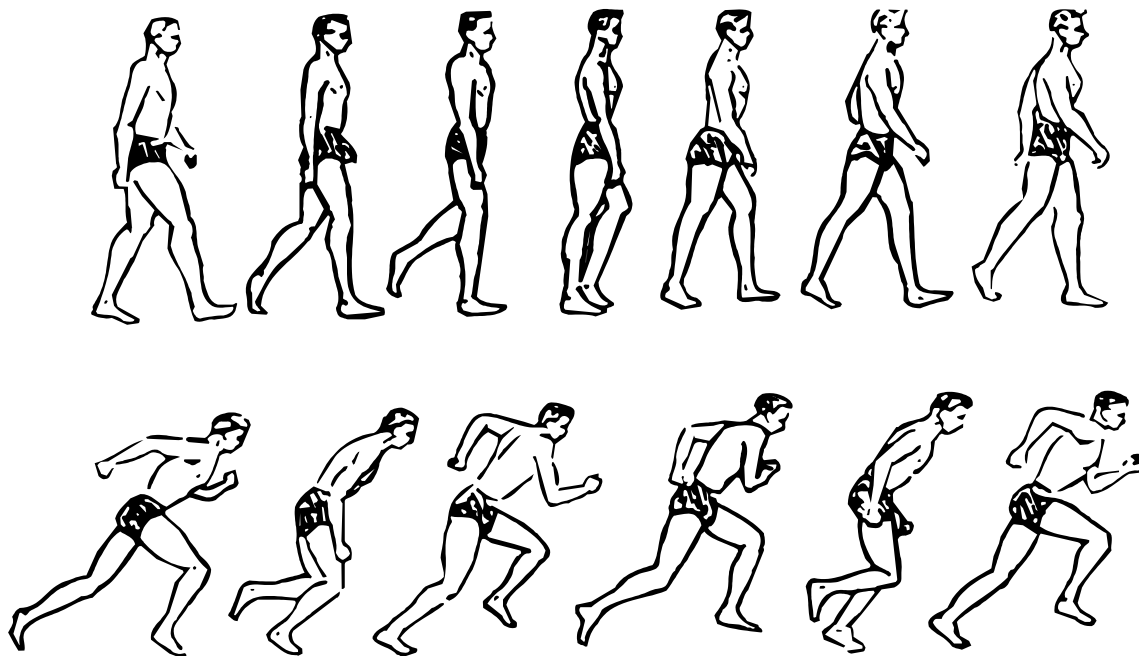
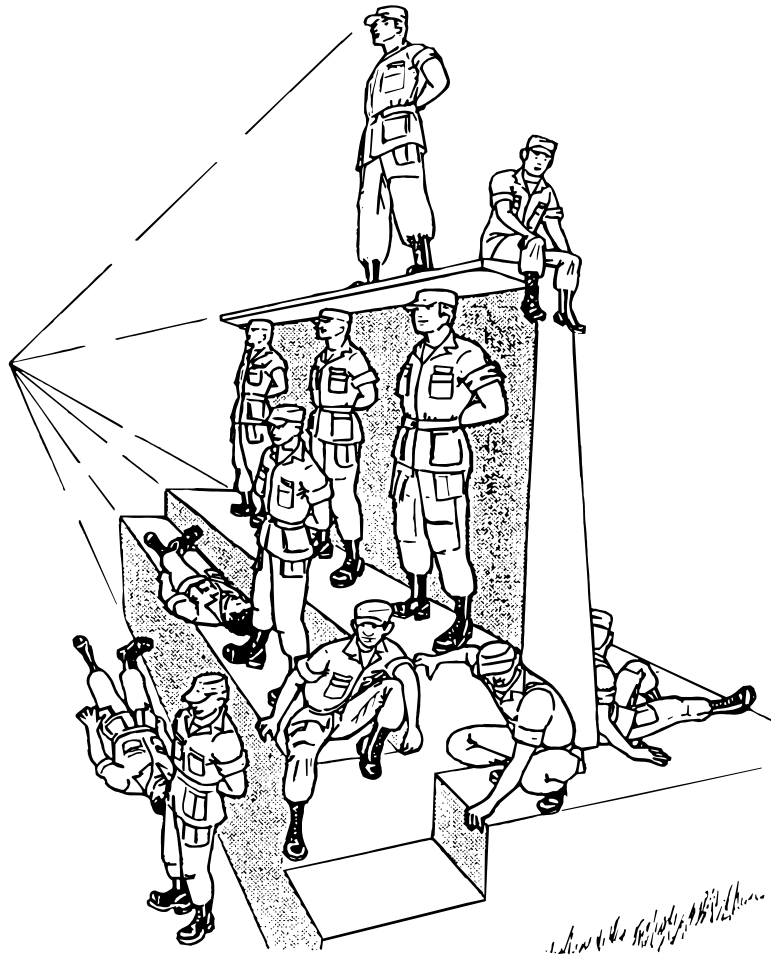

Figure K-17. Walking and running.
Figure K-19. Figures in perspective with foreshortening techniques.
(1) Perspective is the artistic study of space. If your figure will be moving through space, you must understand this movement and how accurately your illustration represents your view of it. Quite often this is shown using techniques of foreshortening.
(2) Figures K-17, K-18, and K-19 give you an idea of how foreshortening and figure placement assist in giving the illusion of depth and impression of movement to your illustrations.
(3) Foreshortening techniques show forms, objects, or figures at an angle. (See Figures K-17 and K-18.) Mastery of this skill helps create the illusion of depth in your illustrations. If your subject is in a position other than one of attention or if your view is at an angle, proportional measurements will differ. You must practice to achieve or maintain visual accuracy in your drawings (Figure K-19).